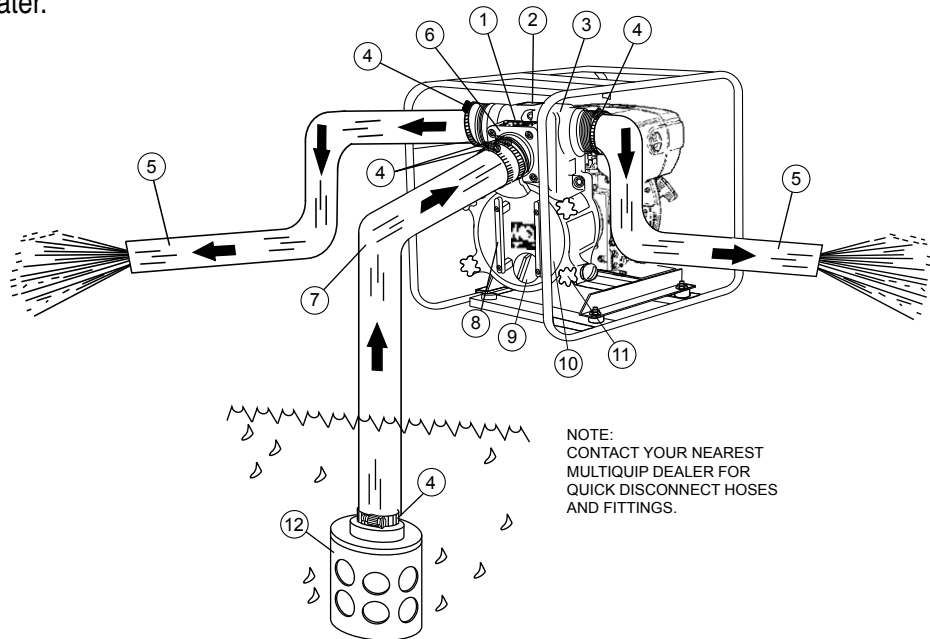

Figure 3. QP2TZ Pump Application
Figure 3 shows a typical application using the QP2TZ centrifugal pump. Please note that this pump is intended for the removal of clean water.
2. To prime pump, remove fill cap (See Figure 3) and fill pump casing with water. If the pump casing is not filled with water before starting, it will not begin pumping.
3. Attach suction and discharge hoses to the pump. Check that all hoses are **securely** attached to the pump. Make certain suction hose (See Figure 3) does not have any air leakage. Tighten hose clamps and couplings as required.
6. Check that the **discharge** hose (See Figure 3) is not restricted. Place hose so that it lays as straight as it is possible on the ground. Remove any twists or sharp bends from hose which may block the flow of water.
8. Make sure the **suction strainer** (See Figure 3) is clean and securely attached to the water end of the suction hose. The strainer is designed to protect the pump by preventing large objects from being pulled in to the pump.